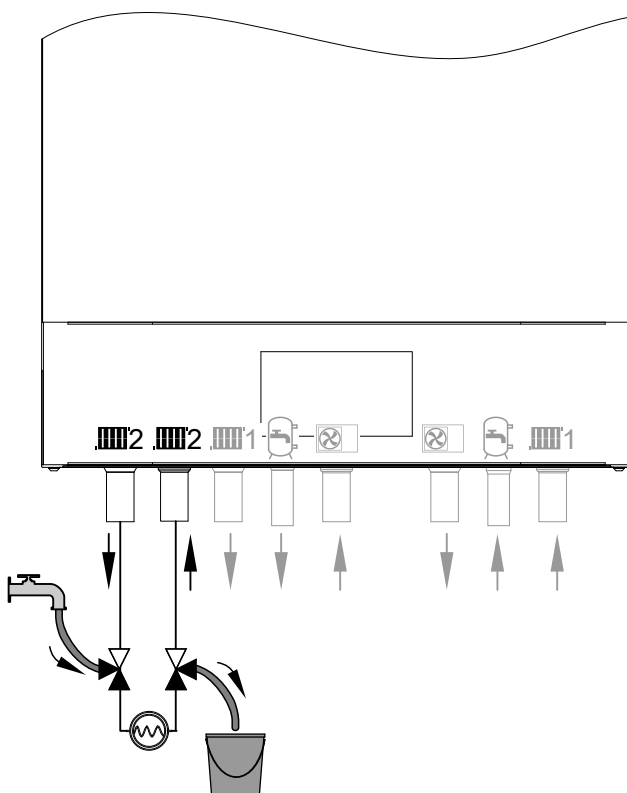

Fig. 64
- Open the 3-way ball valves in the heating/cooling circuit 2 flow and return as shown in Fig. 64. Allow the heating water to flow in via the fill hose.